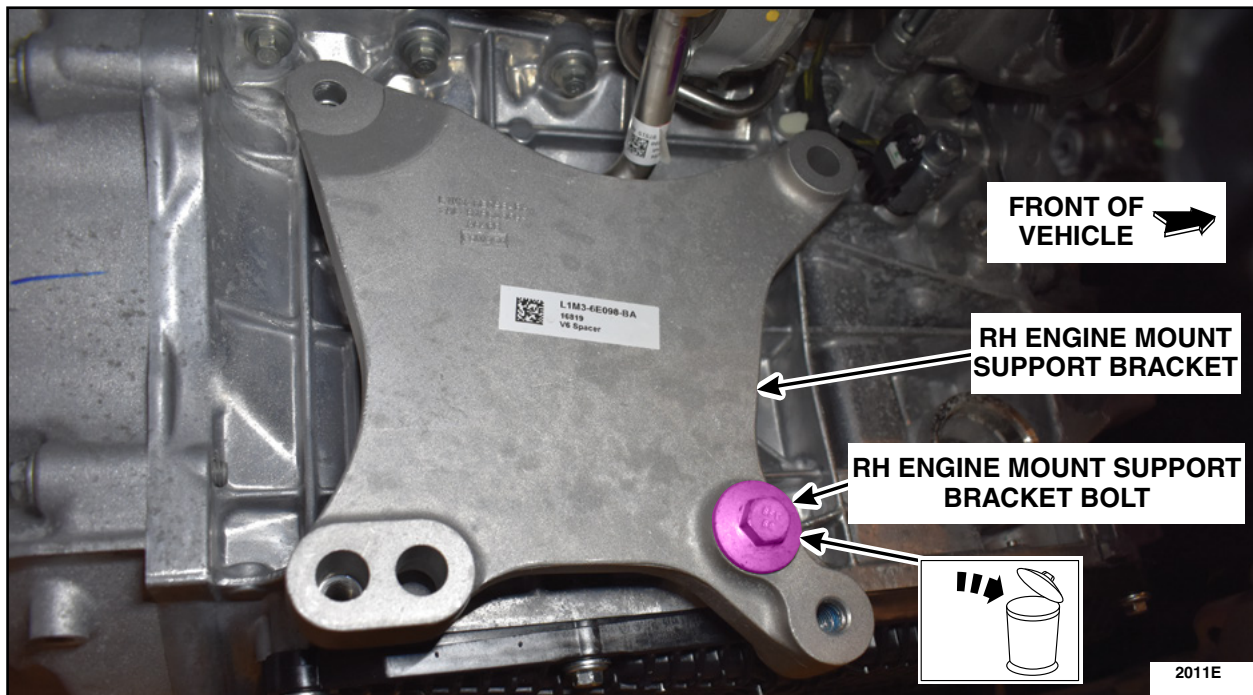

FIGURE 1
1. Remove the Right Hand (RH) engine mount. Please follow the Workshop Manual (WSM) procedures in Section 303-01.
2. Remove and discard the RH engine mount support bracket bolt. See Figure 1.
3. Install the *new* RH engine mount support bracket bolt. See Figure 1.